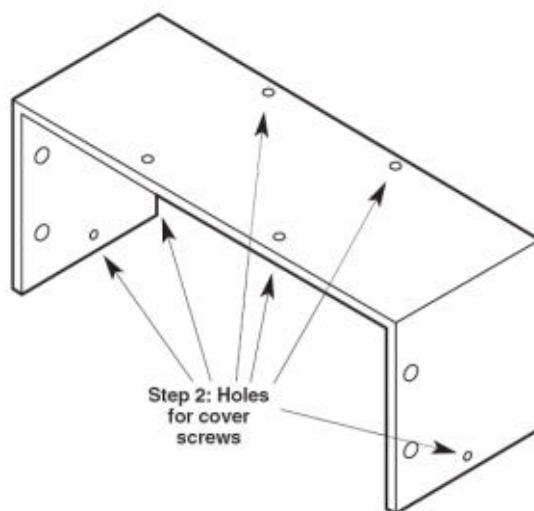

Figure 1. The Switch's cover.
2. Unscrew and remove the six screws (four on top and one on each side) that fasten the wraparound top-and-side cover to the Switch. See Figure 1 on the next page.